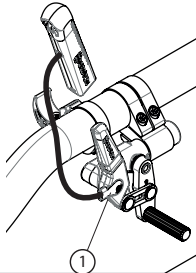

Fig. 39
- Loosen screw (1) (Fig. 39).
- Re-tighten screw (1) on the lock lever.